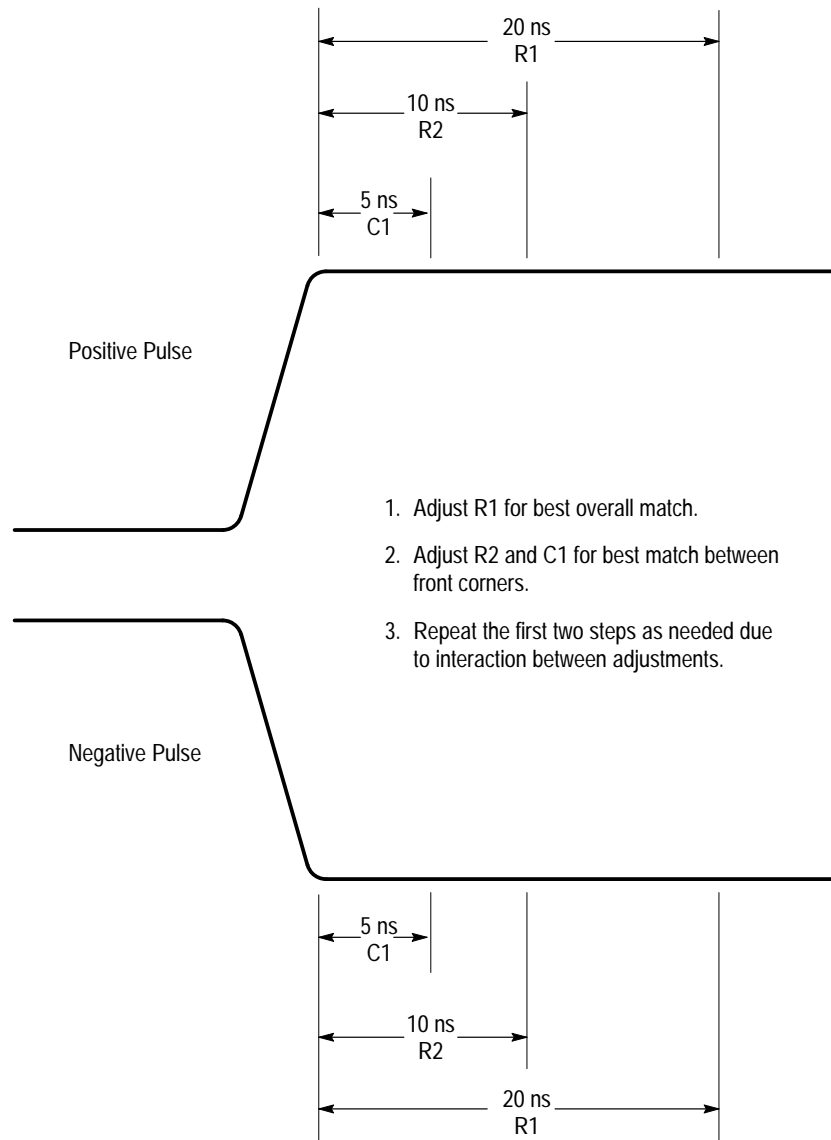

Figure 5-10: Adjustments vs. Front-Corner Response
- See Figure 5-10 to see what areas on the front corner that the various adjustments affect.